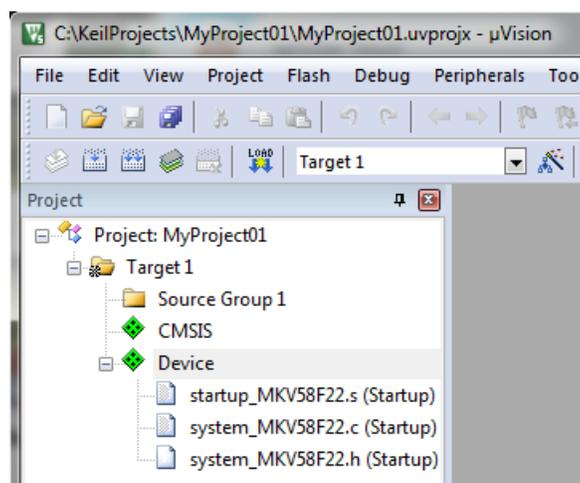

Figure 1-31. Project
- Click OK, and a new project is created. The new project is now visible in the left-hand part of Keil μVision. See Figure 1-31.
- Select Use Single Precision in the Floating Point Hardware option. See Figure 1-31.